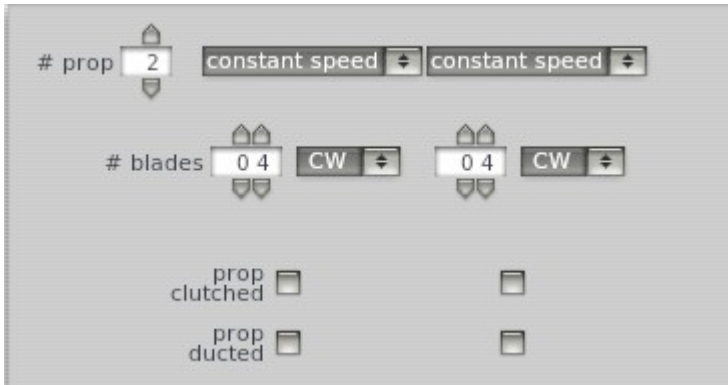

Figure 4.7: Setting the number of propeller blades and the direction in which they spin
Beneath the propeller number and type settings is the “number of blades” control, as seen in Figure 4.7. This number can be set independently for each propeller. Immediately to the right of the number of blades is the direction of spin, also in Figure 4.7. This is set either to clockwise (CW) or counterclockwise (CCW), as seen when looking at the aircraft from behind.
Below the blade direction setting are checkboxes, seen in Figure 4.7. The “prop clutched” and “prop ducted” boxes are used with autogyros and helicopters, respectively.